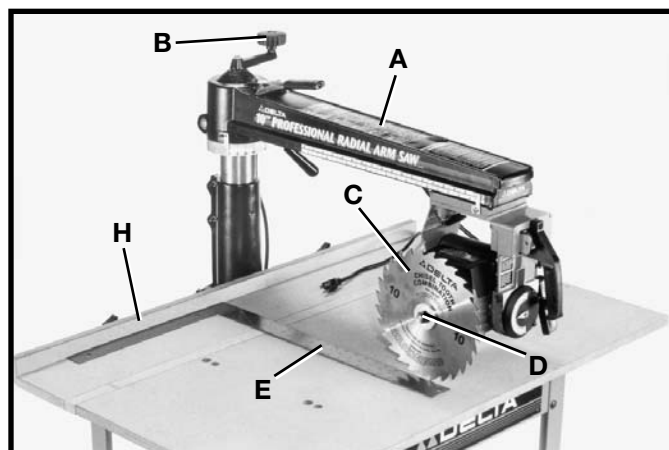

Fig. 32
2. Position rear and middle table boards with 1-3/4" wide fence board (H) Fig. 32, in the rear position as shown.
3. Raise track arm (A) Fig. 32, by turning elevating handle (B) until the blade (C) can be assembled on the motor shaft. Then tighten arbor nut (D) using the wrenches supplied.
4. Place a framing square (E) Fig. 32, against fence (H) and blade (C) as shown, and lower track arm (A) until the blade just clears the table surface.